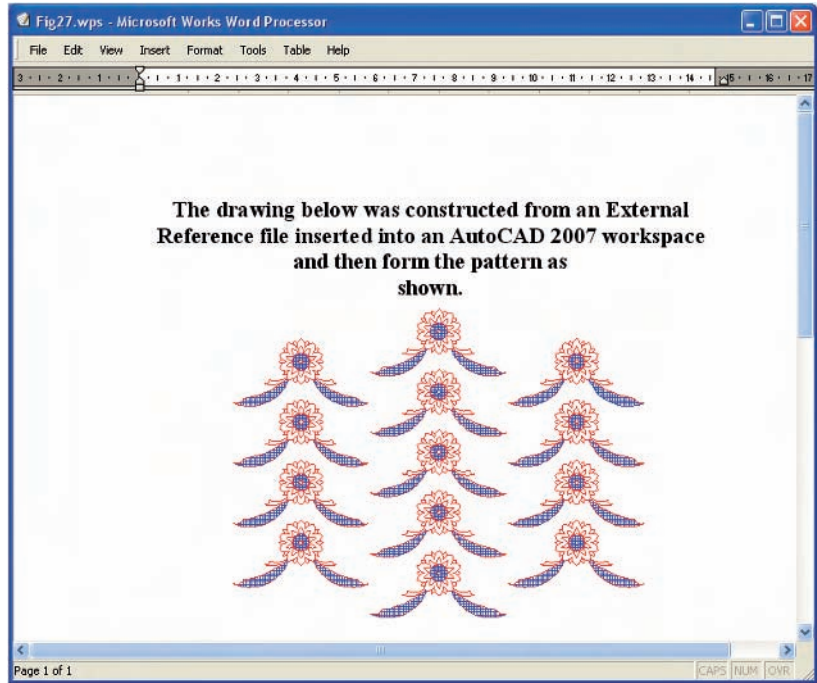

Fig. 10.27 Exercise 4 – an example
4. Using **Copy** from the **Insert** drop-down menu, copy a drawing from AutoCAD 2007 into a Microsoft Word document. An example is given in Fig. 10.27. Add some appropriate text.